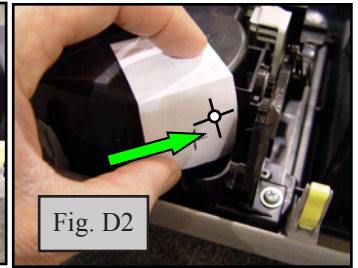

Fig. D2
- ii. Align template as shown use a punch/scribe to mark the center of the hole to be drilled. Place template so holes will be oriented “inward” (Fig. D2)